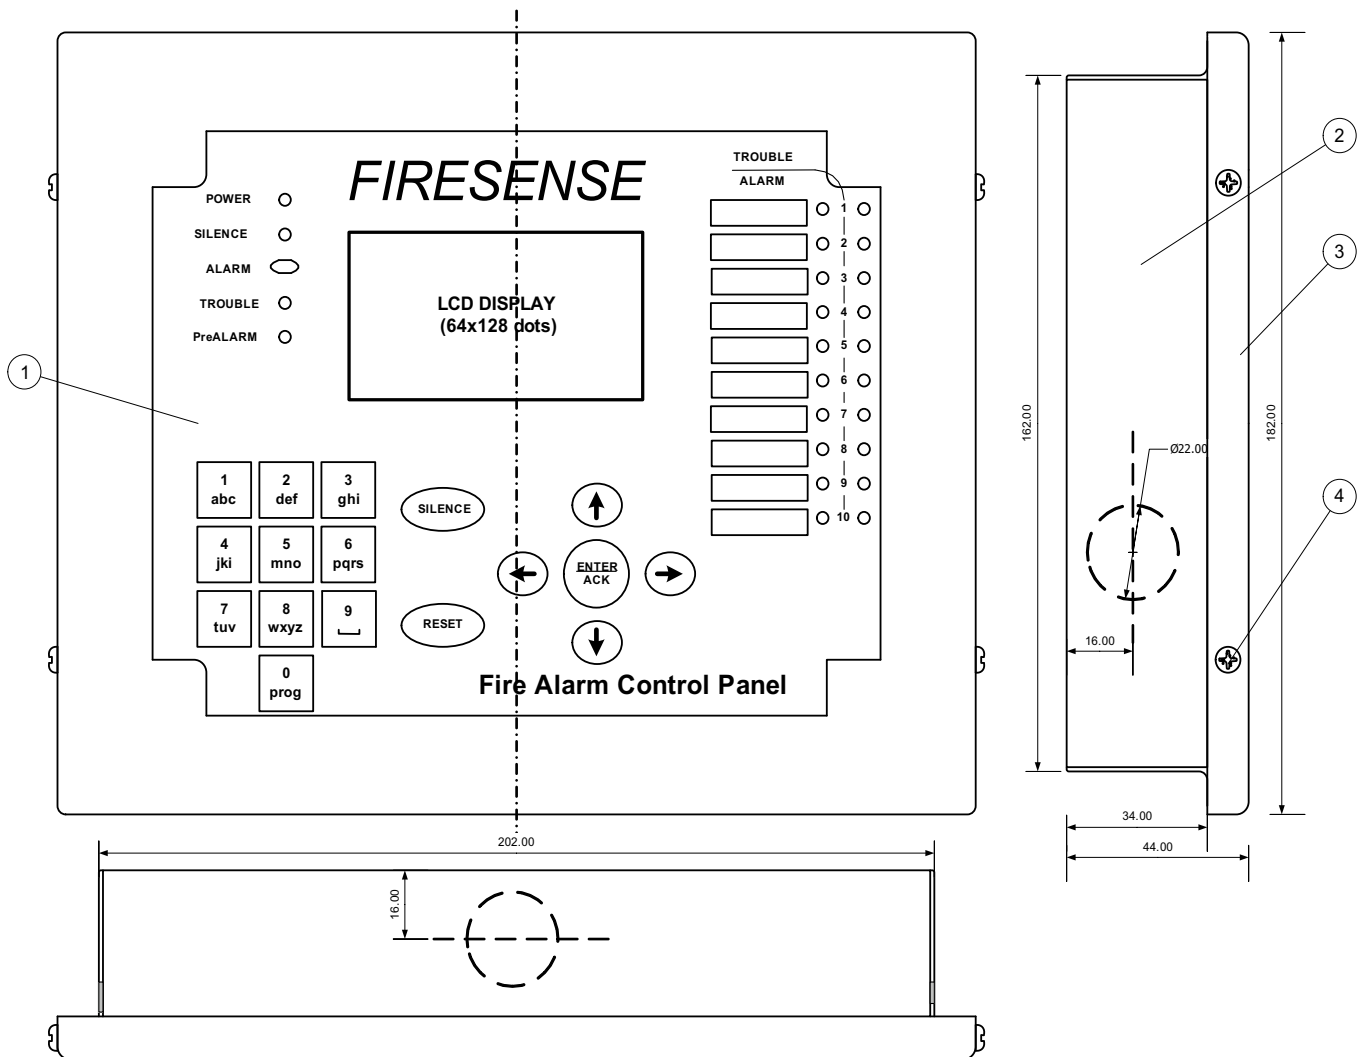

Fig.1. Remote Console Diagram
The Remote Console (Model 03.051) is intended for recessed mounting and includes the Remote PDC-R module (Model # 03.052) and the Remote Console Enclosure (Model # 03.084). The PDC-R (pos.1 as shown in Fig.1) is tied by four nuts to the frame (pos.3) and from the back side the frame is tied to the box (pos.2) by four screws (pos.4). The PDC-R module is connected to the proprietary RS-485 network. The address of Remote may be from "1" up to "15", it is put on by DIP switch on PDC-R module. The Remote Console will mimic the Local Display at the main panel and allows Silence and Reset functions.